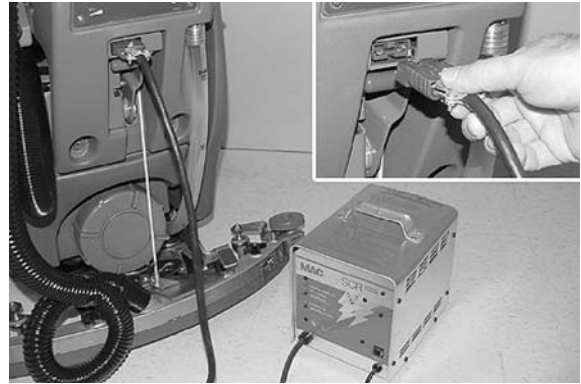

FIG. 35
- Connect the charger's DC cord to the machine's battery receptacle at the rear of the machine (Figure 35).